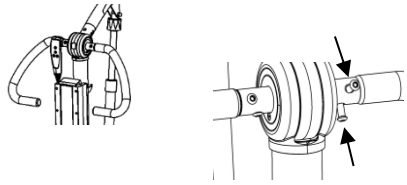

Fig. 1.6E
4. Assemble the handles on the mast with two screws and tighten with the Allen key. (Fig 1.6E)